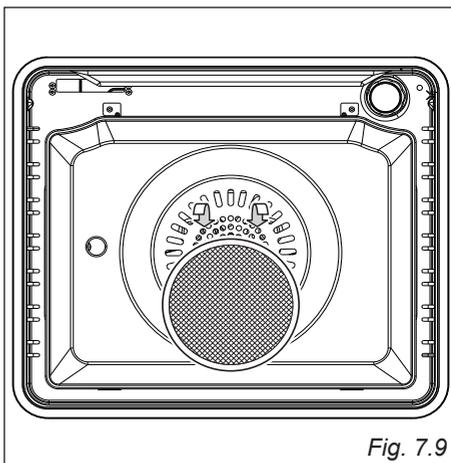

Fig. 7.9
- A special screen is provided at the back of the oven to catch grease particles, mainly when meat is being roasted. Slide in the grease filters on the back of the oven as in fig. 7.9.